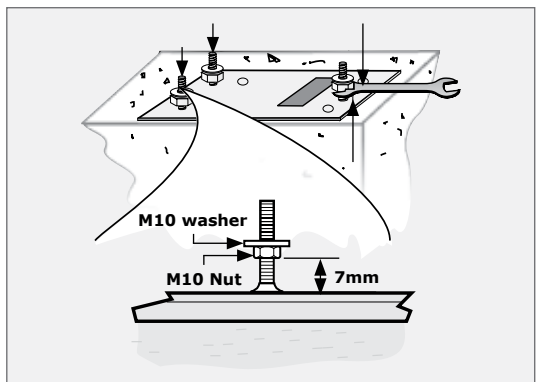

FIGURE 16
1. Fit the M10 nuts and washers to the mounting bolts as shown in Figure 16